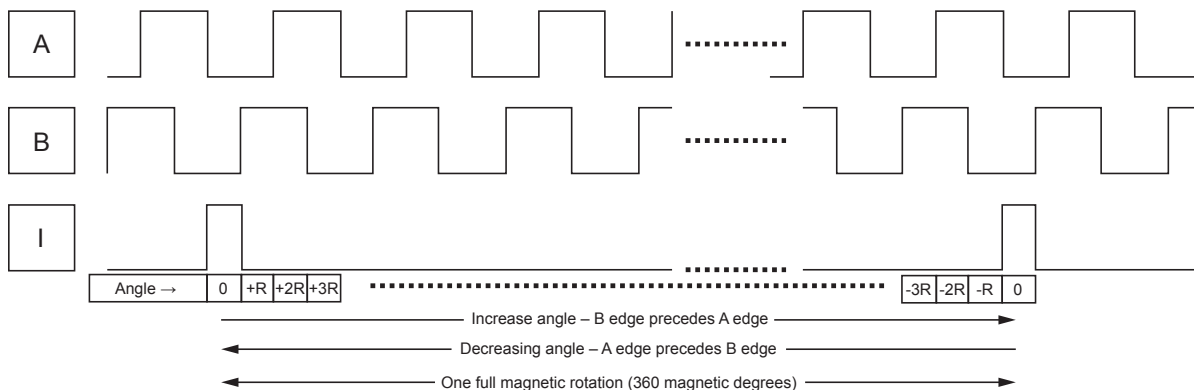

Figure 5: One Full Revolution
The AAS33051 offers an incremental output mode in the form of quadrature A/B and Index outputs to emulate an optical or mechanical encoder. The A and B signals toggle with a 50% duty cycle (relative to angular distance, not necessarily time) at a frequency of $2N$ cycles per magnetic revolution, giving a cycle resolution of $(360 / 2^N)$ degrees per cycle. B is offset from A by $1/4$ of the cycle period. The I signal is an index pulse that occurs once per revolution to mark the zero (0) angle position. One revolution is shown in Figure 5.